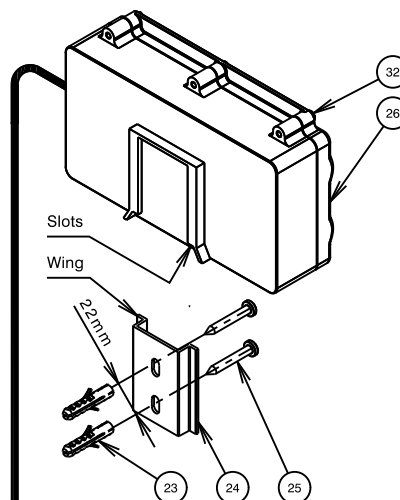

Fig. 6 - Battery box installation
- i) Drill two Ø6mm holes, 40mm deep and 22mm apart vertically as shown in Fig. 6.
- ii) Insert small end of wall plugs (23) into drilled holes and tap until flush with wall/tile face.
- iii) Align the slots on bracket (24) with the holes on the wall, pass the screws (25) through the slots and insert into the wall plugs (23). Then tighten the screws. DO NOT OVERTIGHTEN.
- iv) Mount the battery box (26) onto wings of bracket (24).
- i) Drill two holes at 22mm apart vertically to suit the self tapping screws supplied as shown in Fig. 6.
- ii) Align the slots on bracket (24) with the holes on the wall, pass the screws (25) through the slots and insert into the holes in the stud. Then tighten the screws. DO NOT OVERTIGHTEN.
- iii) Mount the battery box (26) onto wings of bracket (24).
#### 7) Adding/Replacing batteries, (Fig. 6)